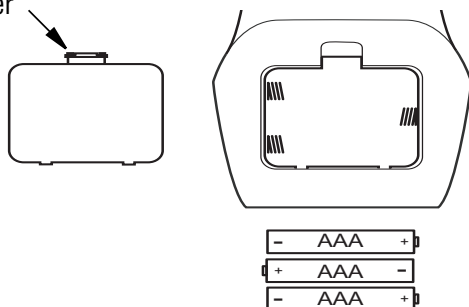

Figure 52 - Battery Install Hand-Held Remote Control
1. Remove battery housing cover from back of hand-held remote (see **Figure 52**).